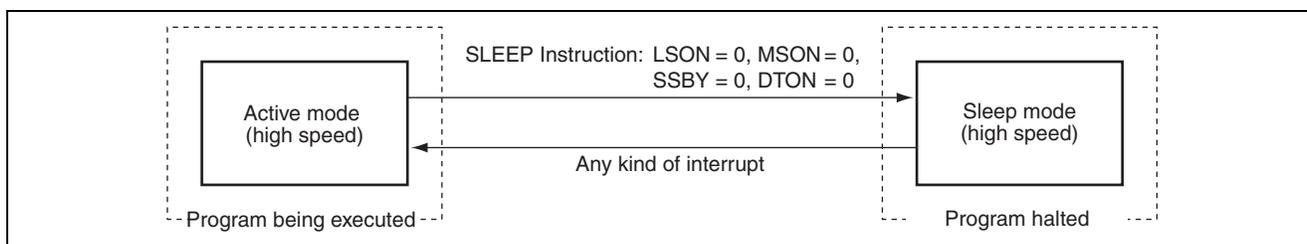

Figure 2.1 Mode Transition from/to High-Speed Sleep Mode
1. In this sample task, transition to the high-speed sleep mode, a power down mode, is made. Figure 2.1 shows a mode transition diagram to the high-speed sleep mode. The function of the high-speed sleep mode is described below.